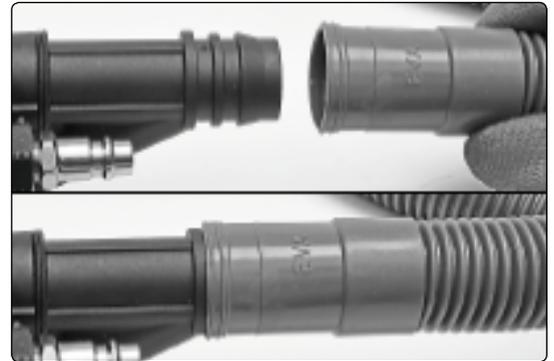

fig.4
4.4. Connecting of the grinder to dust extraction system (fig.4.)